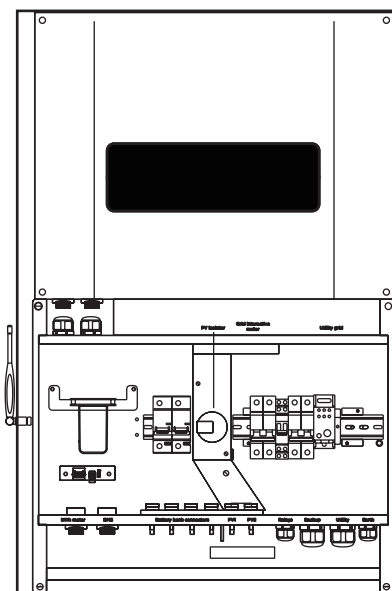

Figure 7: Mounting the Inverter
- Screw the antenna into the SMA connector on the left side of the inverter as shown in Figure 7.